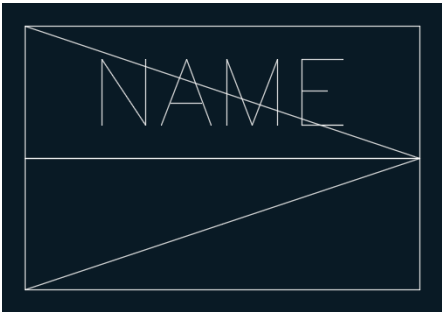

FIGURE 15.10 Placing an attribute definition in relation to the block definition geometry
8. Click OK to close the Attribute Definition dialog box. Click the midpoint at point D in Figure 15.8. Figure 15.10 shows the result.